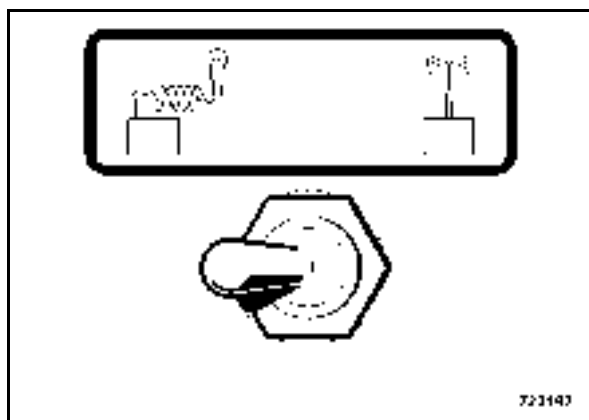

Fig. 85
- Turn the tumbler switch for the cable remote control to position "Left", cable operation (Fig. 85).